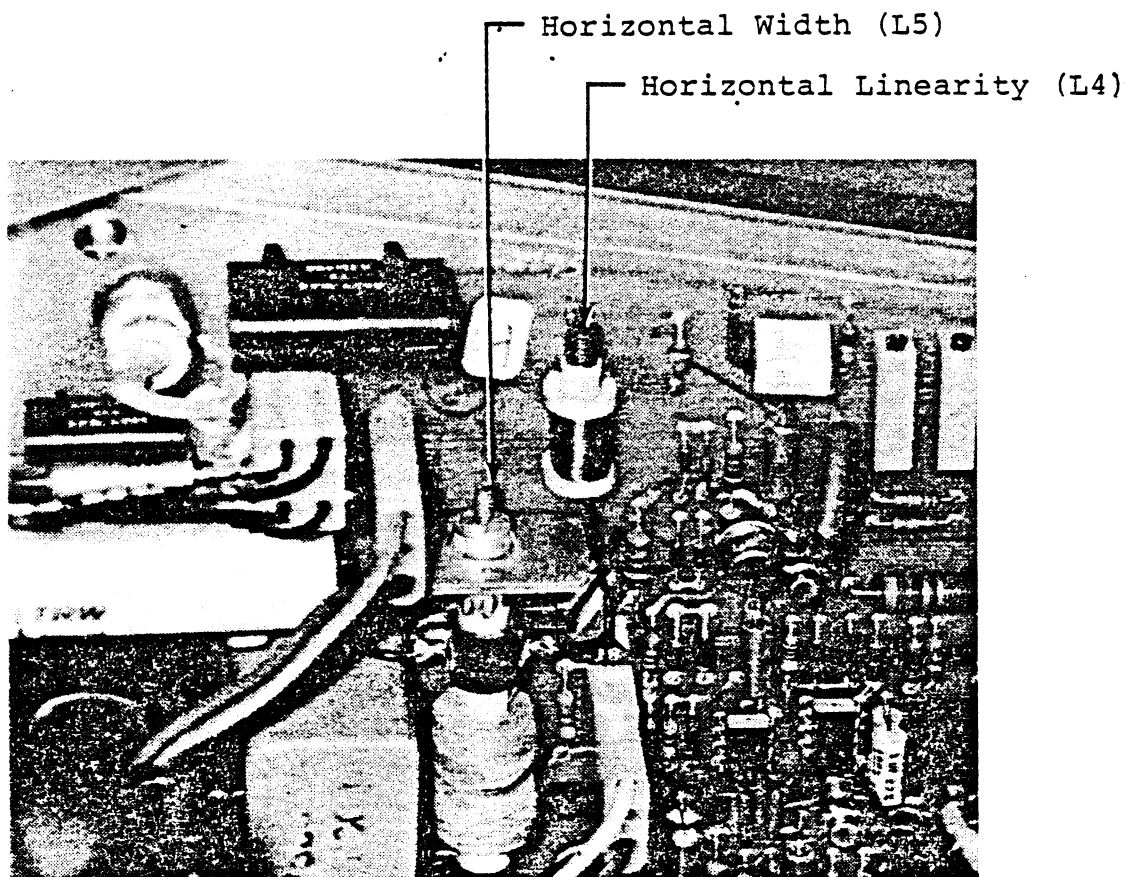

Figure 4-5. Horizontal Adjustments
2. Locate inductor L4 on the deflection raster scan board (A4). See Figure 4-5.
- k. Adjust variable inductor L5 (Figure 4-5) to set the horizontal width of the display to 7.9 ±0.05 inches.